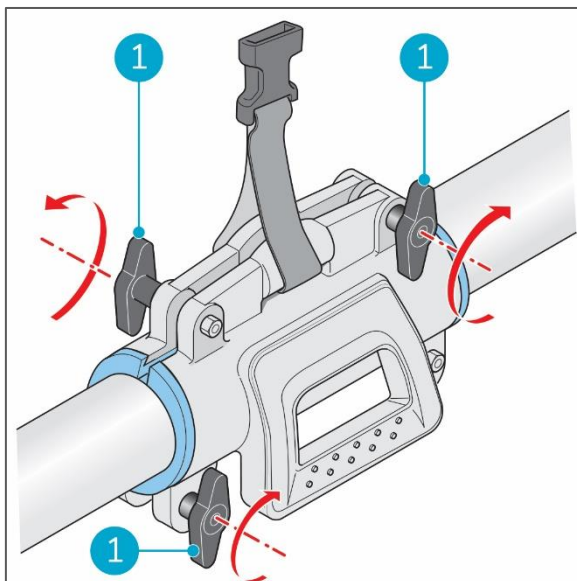

Figure 21
9. Tighten the wing nuts and screws (4x) (Figure 21 pos. 1) in the carrier.